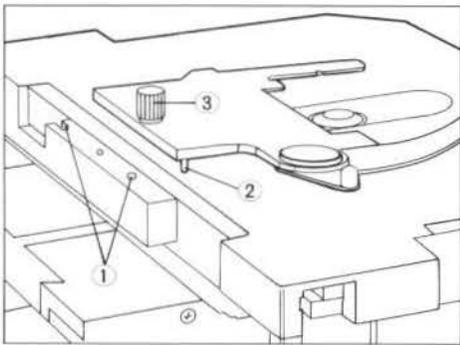

Fig. 9
1. Insert the guide pins (2) of the specimen holder into the bores (1) in the stage. (Fig. 9)
2. Tighten the knob (3) with a coin. (Fig. 9)